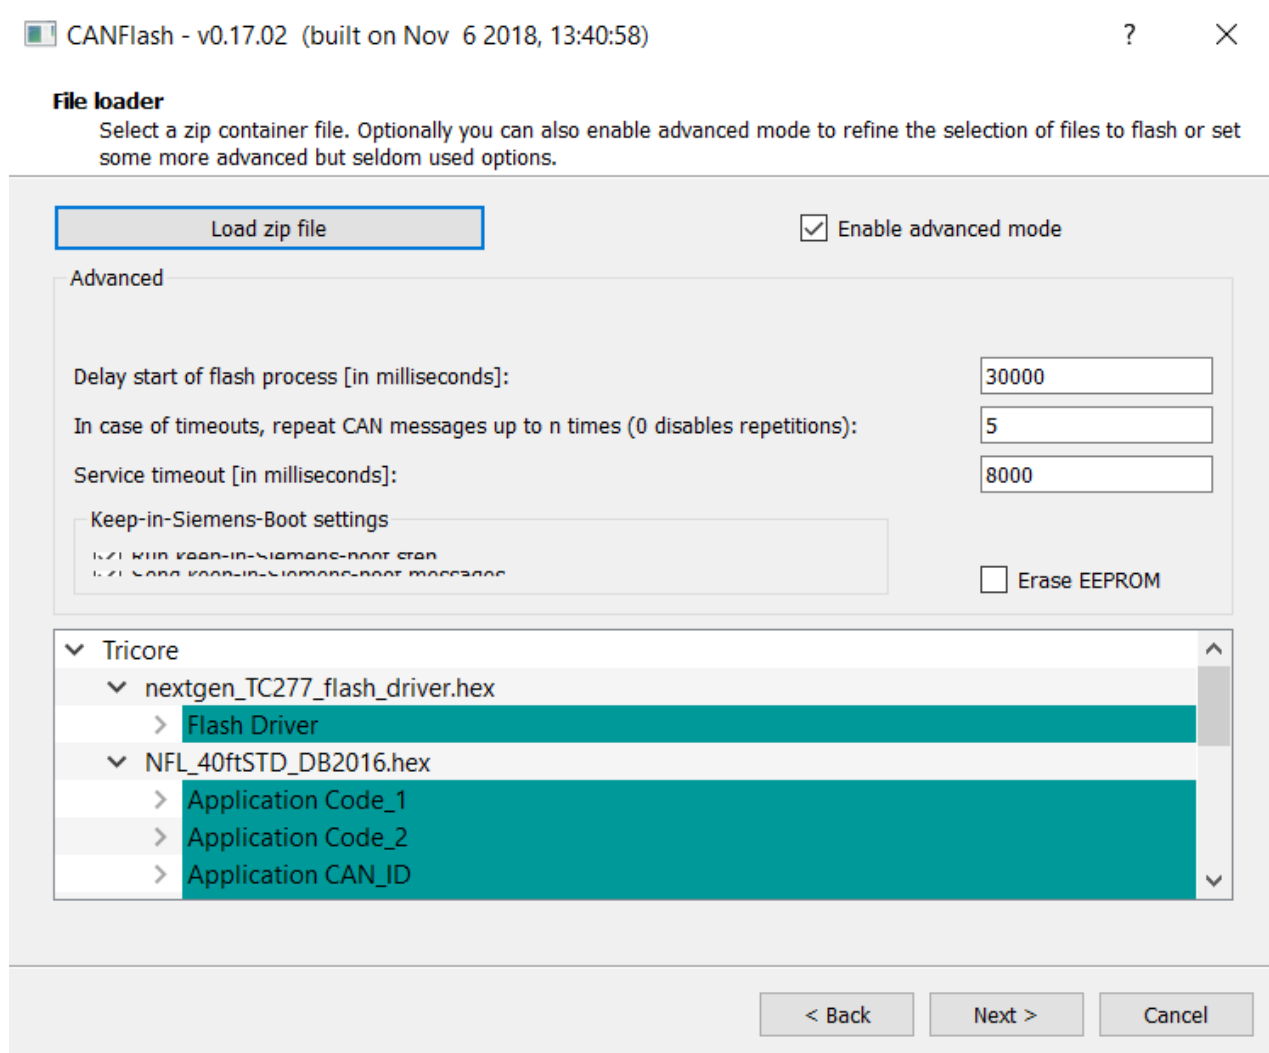

Figure 5: Advanced settings for CANFlash
- Click the **Enable advanced mode** button. Change the **Delay start of flash process** box to 30000. Change the **repeat CAN messages** box to 5 (see figure 5 below). Click Next when complete.